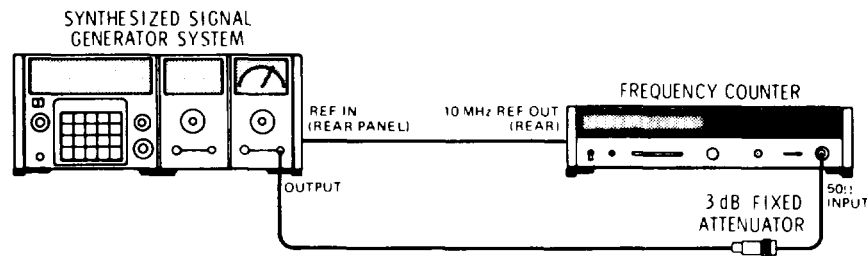

Figure 4-1. Frequency Range Test Setup
1. Connect frequency counter 10 MHz output reference signal to mainframe EXT REF input as shown in Figure 4-1 and set mainframe rear panel REF switch to EXT.